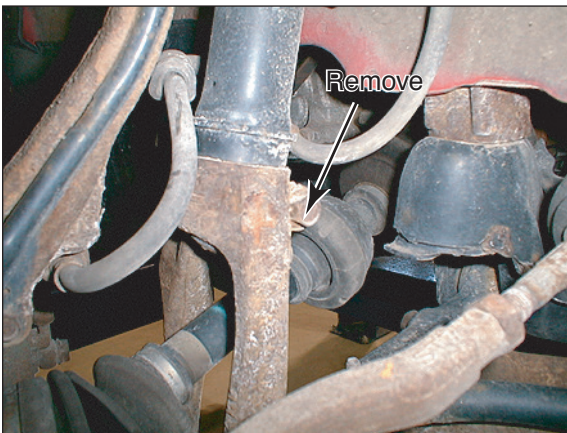

Figure 3
3. Remove the strut lower mounting bolt that is on the side of the clevis (Figure 3).